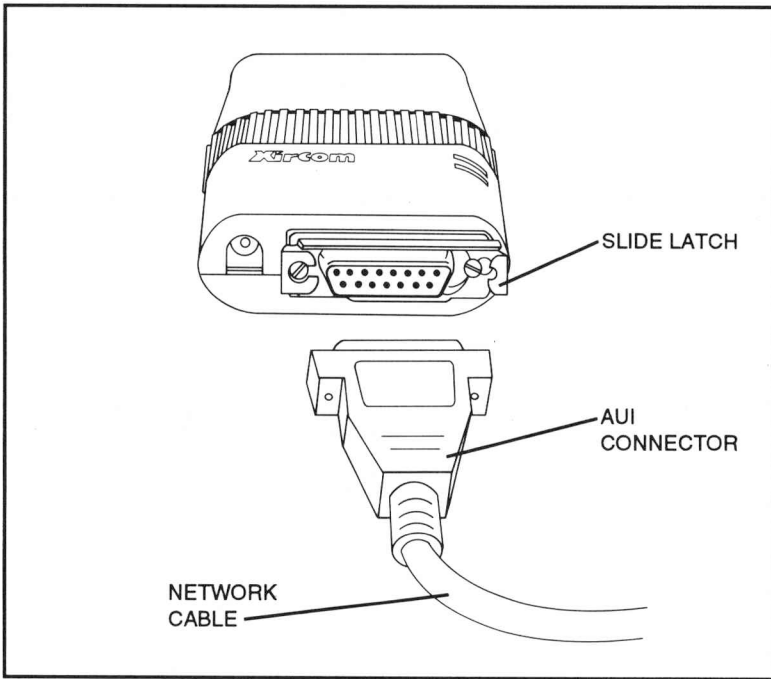

Figure 5. Attaching the AUI Cable to Model PE2-10BX
1. Connect the 15-pin male end of the AUI cable to the female AUI connector on the Adapter. Use the "D" shape of the plug to help you attach the cable properly. Press the slide latch to the left to lock the connector in place. See Figure 5.